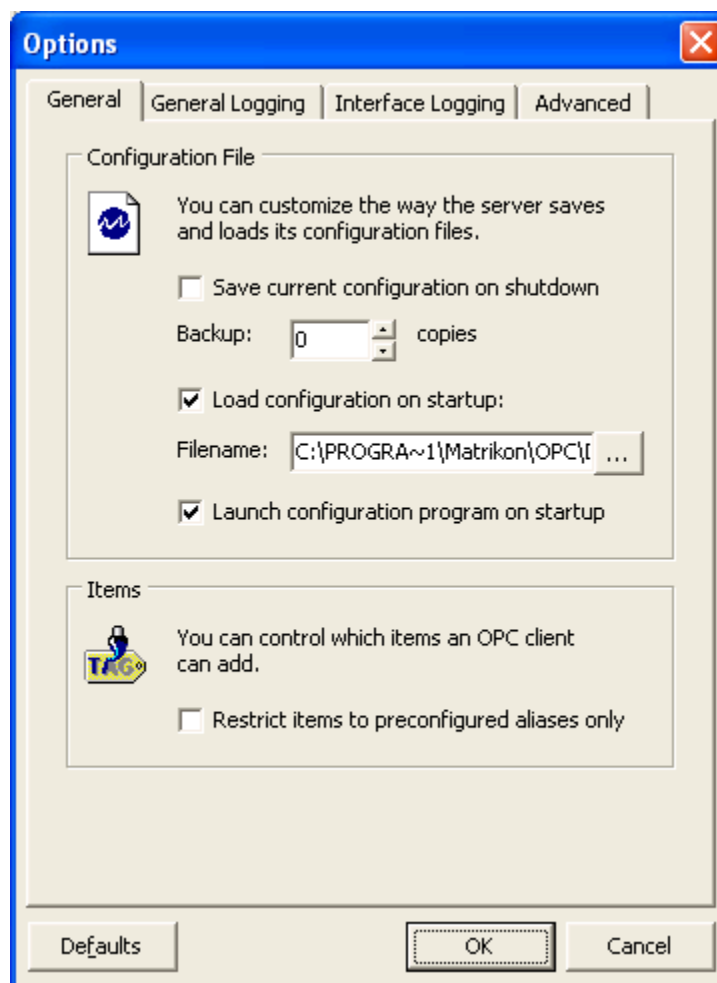

Figure 48 - General Options Tab
3. From the **Options** window, select the **General** tab (Figure 48).